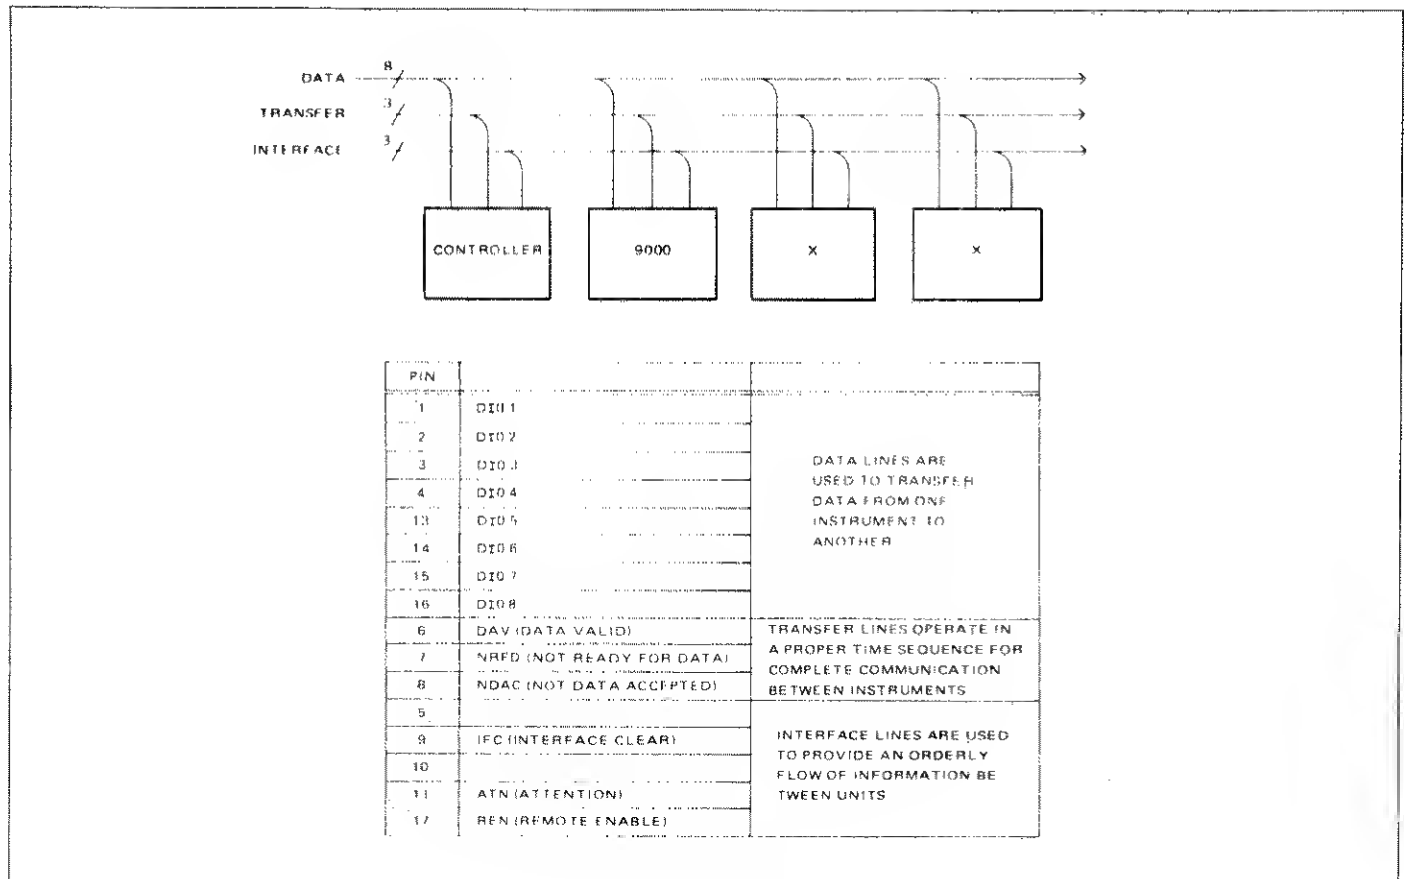

Figure 3.1 - Data Bus Lines
3.4.2 The data bus lines as shown in figure 3.1 consist of three functionally separate sets: Data, Transfer, and Interface.